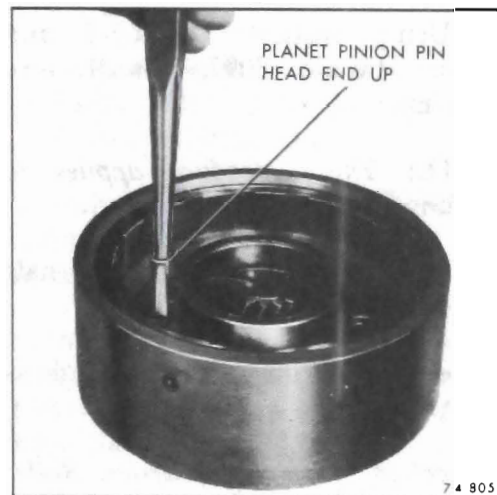

Figure 76-576
9. Drive a new pinion pin into place while rotating pinion from the front, being sure that the headed end is flush or below the face of the carrier. See Figure 76-576.